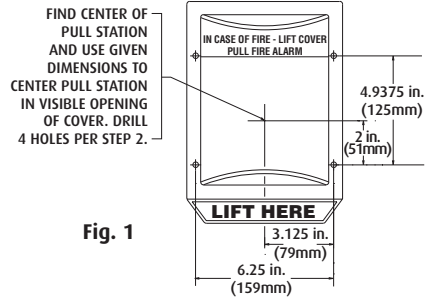

Fig. 1
1. Separate cover and frame leaving cables attached. Slide power switch, on back of horn housing, to "OFF" position (see Fig. 5). Using frame or optional backplate (recommended with all Weather Stopper models) as a template, mark mounting holes on wall taking into consideration placement of pull station or refer to Fig. 1 for dimensional hole placement from center of clear opening.